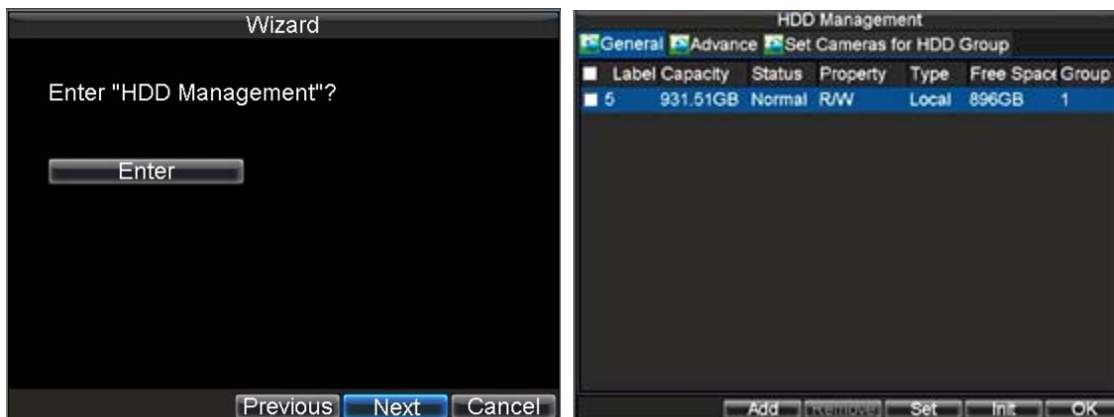

Figure 6. HDD Management
11. Click **Next** button to enter the **HDD Management** dialog box, shown in Figure 6.